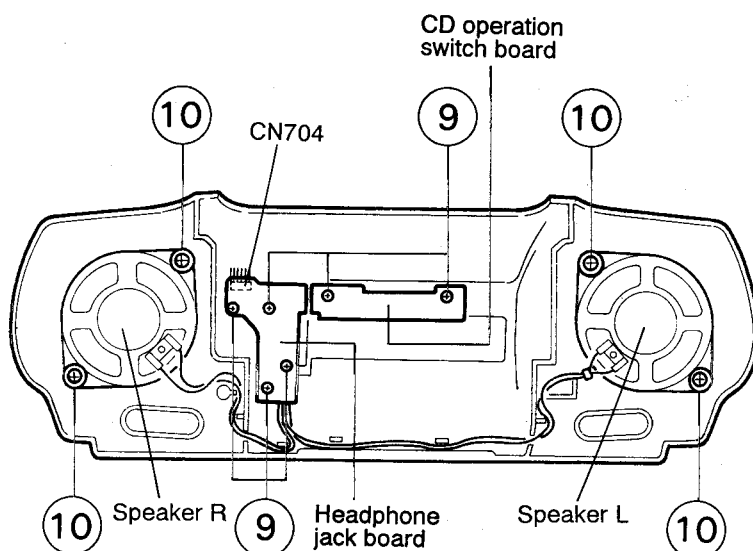

Fig. 5-16
■ Removing the headphone jack & CD operation switch board (See Fig. 5-16)
2. From the front panel assembly side, remove the five screws (9) retaining the headphone jack and CD operation switch board.
4. Remove the four screws (10) retaining the right and left speakers.